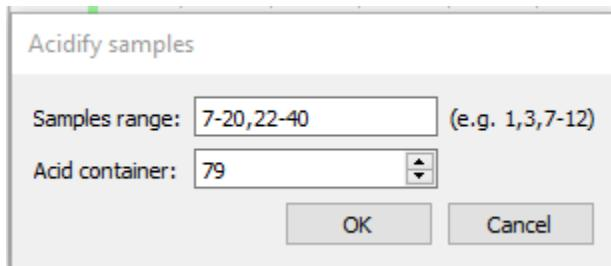

Figure 7: The sample acidification window, with correct numerical formatting for surface water sample acidification.
- 3.2.7.4.1 From the menu bar, click "System" > "Acidify Samples." See Figure 7 below.